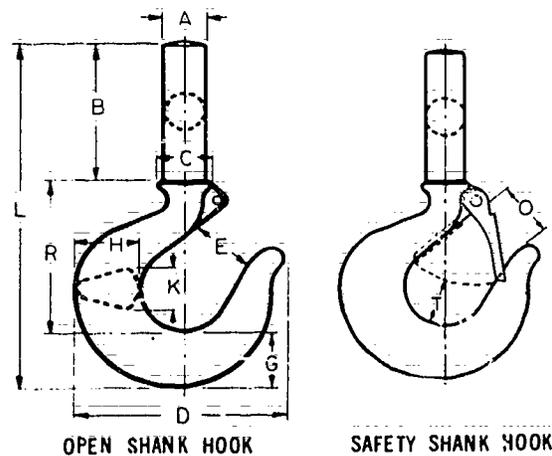

Figure 7-82. Shank Hooks
4. **Shank Hooks** shall be considered to be of equal strength characteristics to eye hooks where the thickness at "G" is the same on both hooks. Open and Safety Shank Hooks are illustrated in Figure 7-82. Hooks must be inspected regularly with particular attention to load carrying sections (e.g., dimension G) and stress related areas (dimension E). Any hook showing a loss of material of 20% or more of the original thickness at any section must be destroyed and replaced. Similarly any increase in the throat opening E beyond stated specification indicates overstress, and the hook must be destroyed. Table 7-9 specifies important dimensions for eye type